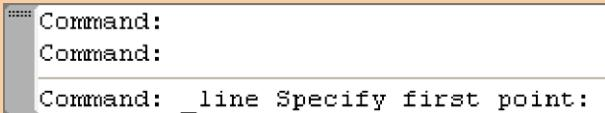

Fig. 2.3 The prompt appearing at the command line in the Command palette when **Line** is 'called'
- b. The prompt **Command: _line Specify first point** which appears in the command window at the command line (Fig. 2.3).